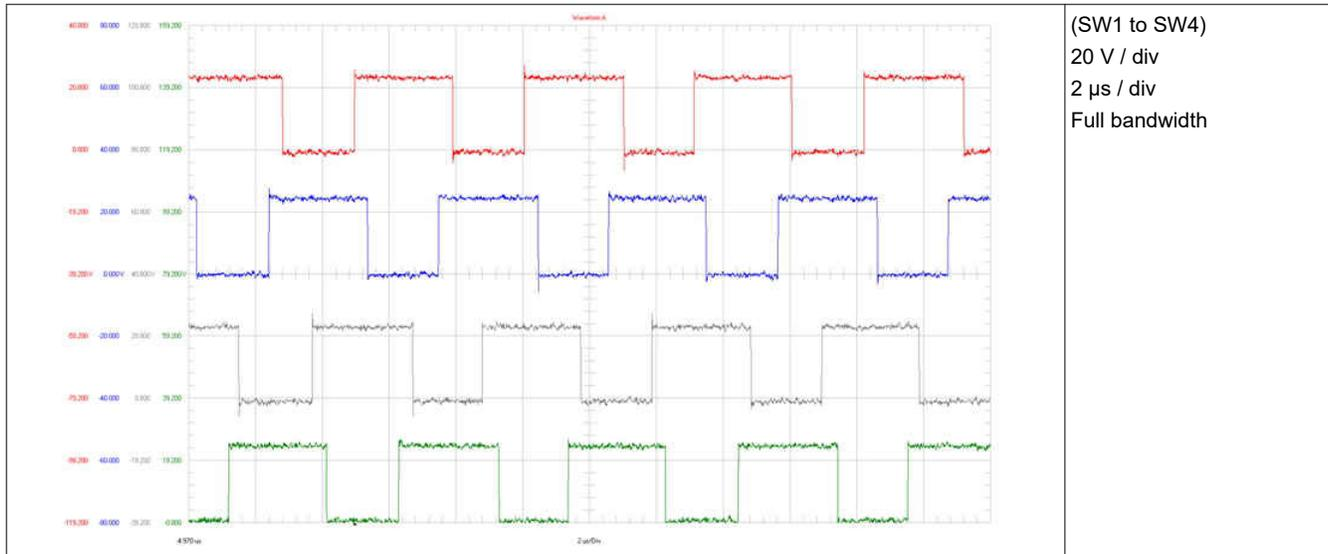

Figure 3-1. Four Switching Phases at 0, 90, 180, 270 Degrees Phase Shift
(1) The background color in the table cells correspond to the waveform colors in Figure 3-1.
Figure 3-1 highlights the four phase interleaved operation of the two stacked controllers in primary and secondary configuration. Four phase interleaved operation results in **ripple rejection at 25%, 50% and 75% duty cycle**.